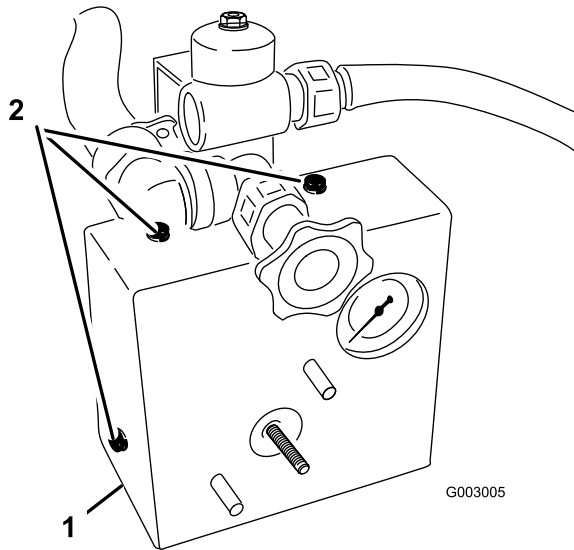

Figure 16
4. Install the cover on the control valve assembly (Figure 16), securing it with 3 bolts.